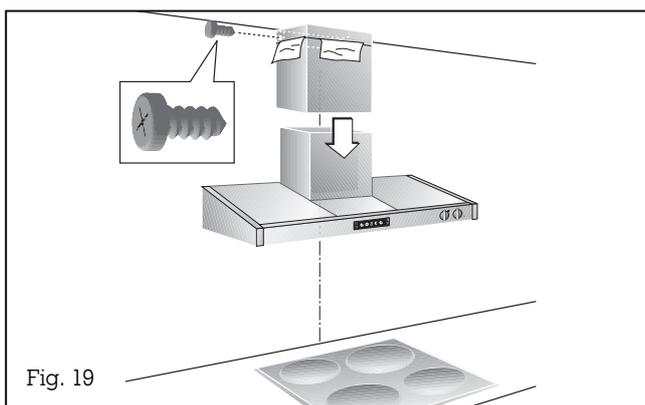

Fig. 19
- Pull the shoe down into its final position (Fig. 19).